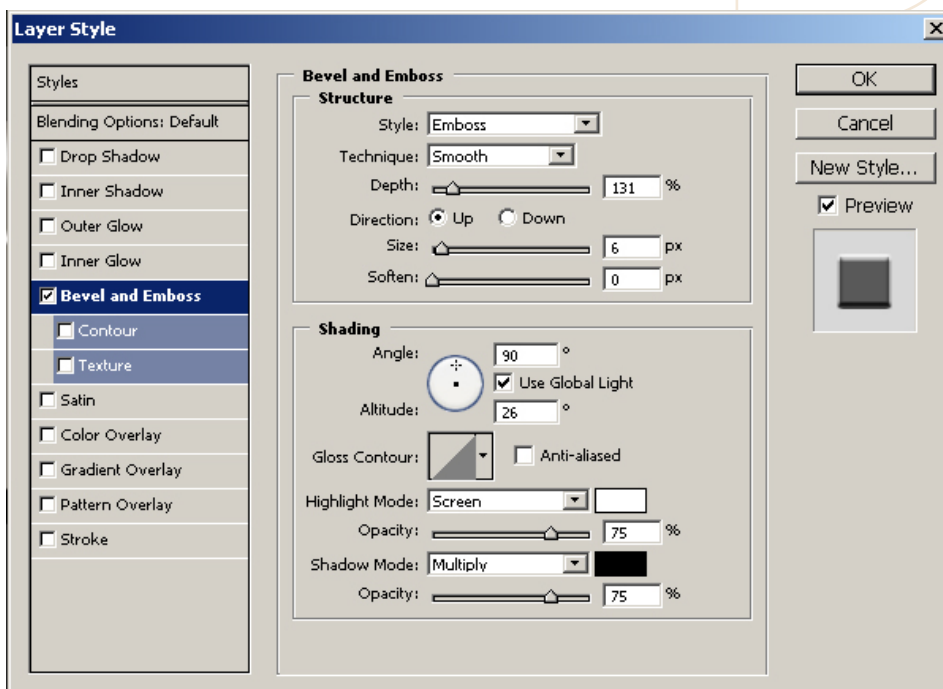

Fig01
1. The clothing itself is by far the simplest to achieve as this will comprise of only two key layers of detail in the form of shadows and highlights, much like the skin previously. As such, we will start with the armour as this is a little more involved. We will begin with the elbow pad as this is a relatively small part of the armour but one that utilises most of the techniques we shall use on the more dominant pieces. First of all, select a neutral grey and block in the area on the template and then, using the elliptical marquee tool, select a small area within the curved section. Now on the main menu bar click on Layer – Layer Style – Bevel and Emboss. Alternatively, you can click on the small “f” icon at the base of the Layers palette. This will bring up a dialogue box, similar to Fig.01. Here you can alter various settings that will determine the direction of light, along with the type and depth of bevel. You will notice that I have chosen an Emboss and the angle of light is directly above in this case. This is because the orientation of the detail on the texture map is such that the top of the ellipse will be facing upwards on the character and hence the shadow will be underneath. Experiment with the slider bars and styles and observe the effects.